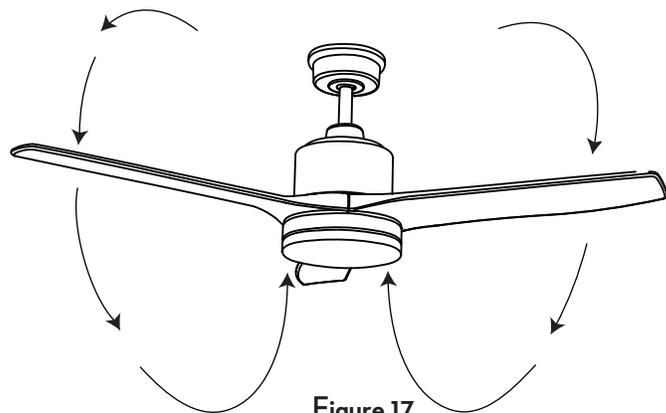

Figure 17
* Cool weather - (Reverse) An upward air flow moves warm air off the ceiling area as shown in Figure 17. This allows you to set your heating unit on a lower setting without affecting your comfort.